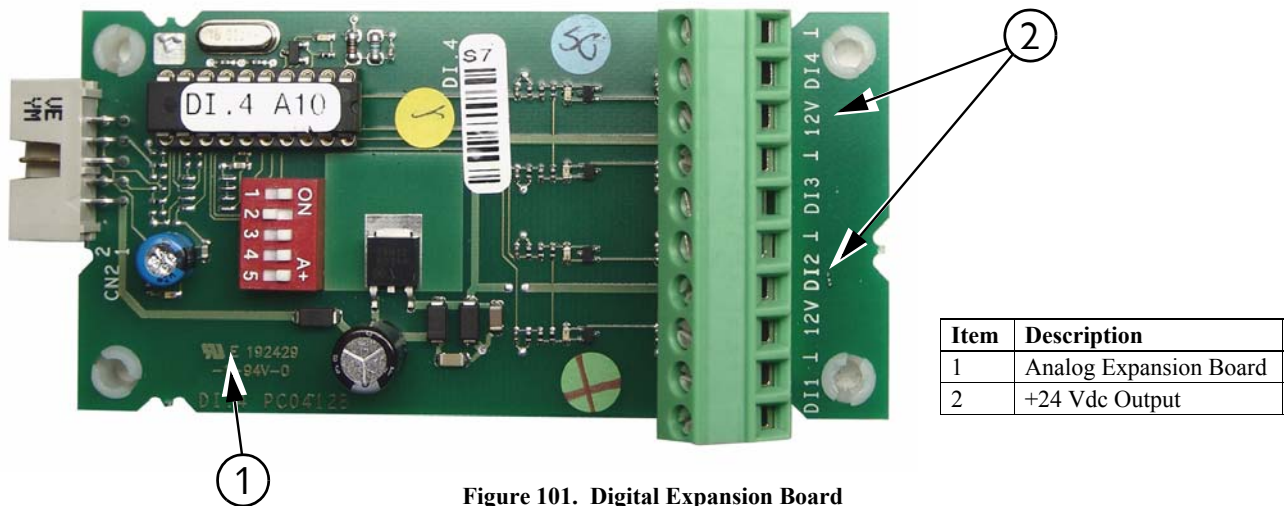

Figure 101. Digital Expansion Board
**Digital Expansion Boards-** Each Digital Expansion Board (DI.4 board) adds 4 additional digital inputs to the Chore-Tronics® 2 Control. There are multiple +12 Vdc outputs available if needed (**Item 2, Figure 101**). When assigning the Input in the Setup-General screen make sure that the number of the Digital Expansion Board is correct along with the number of the digital input itself. It is highly recommended that the name of the Input as well as its assigned location be written on the Input decal located on the cover plate of the main box and also recorded in the **Input Assignment Diagram on page 113**.